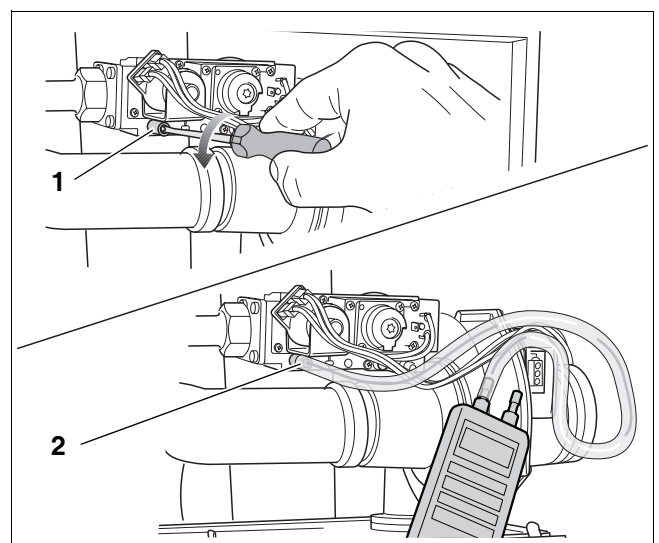

fig. 13 Measuring the gas supply pressure
- Close the gas shut-off valve. Loosen the screw plug on the inlet gas pressure testing nipple by two turns (fig. 13, pos. 1).
- Connect the pressure gauge connection hose to the testing nipple (fig. 13, pos. 2).